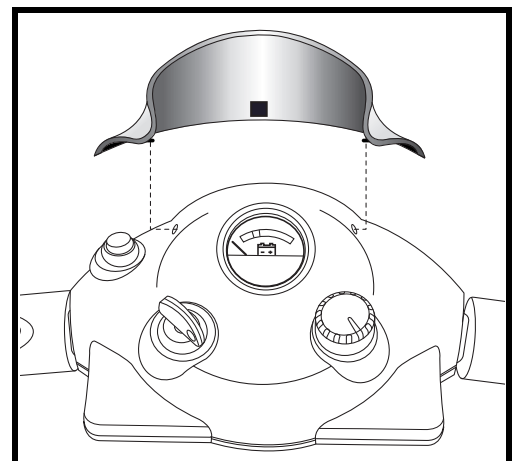

Figure 15. Tiller Console Visor
1. Gently pull the top of the visor away from the tiller console, then slowly lift it up and away from the tiller console. See figure 15.